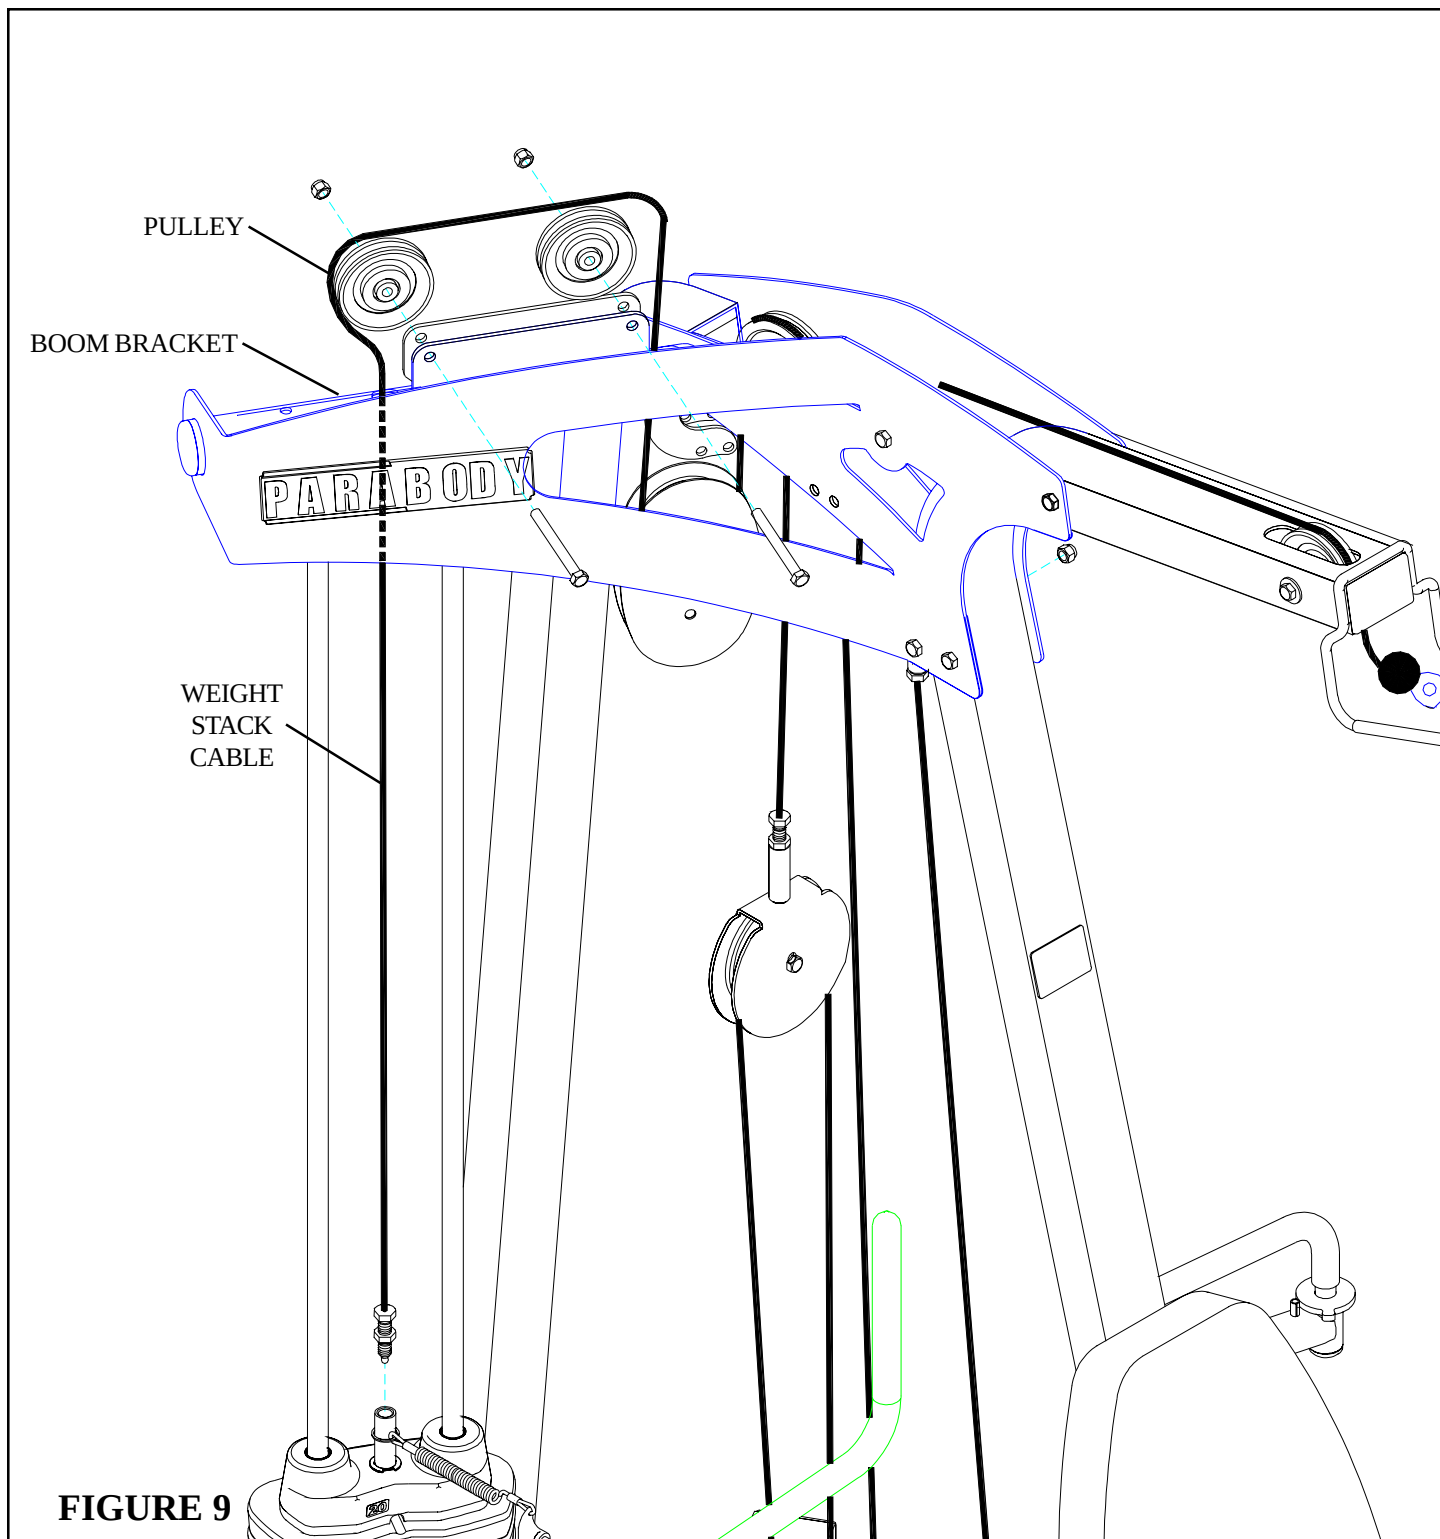

FIGURE 9
- Unscrew the threaded ends of the WEIGHT STACK CABLE from the WEIGHT STACK SHAFT and remove the two PULLEYS from the BOOM BRACKET. See FIGURE 9.